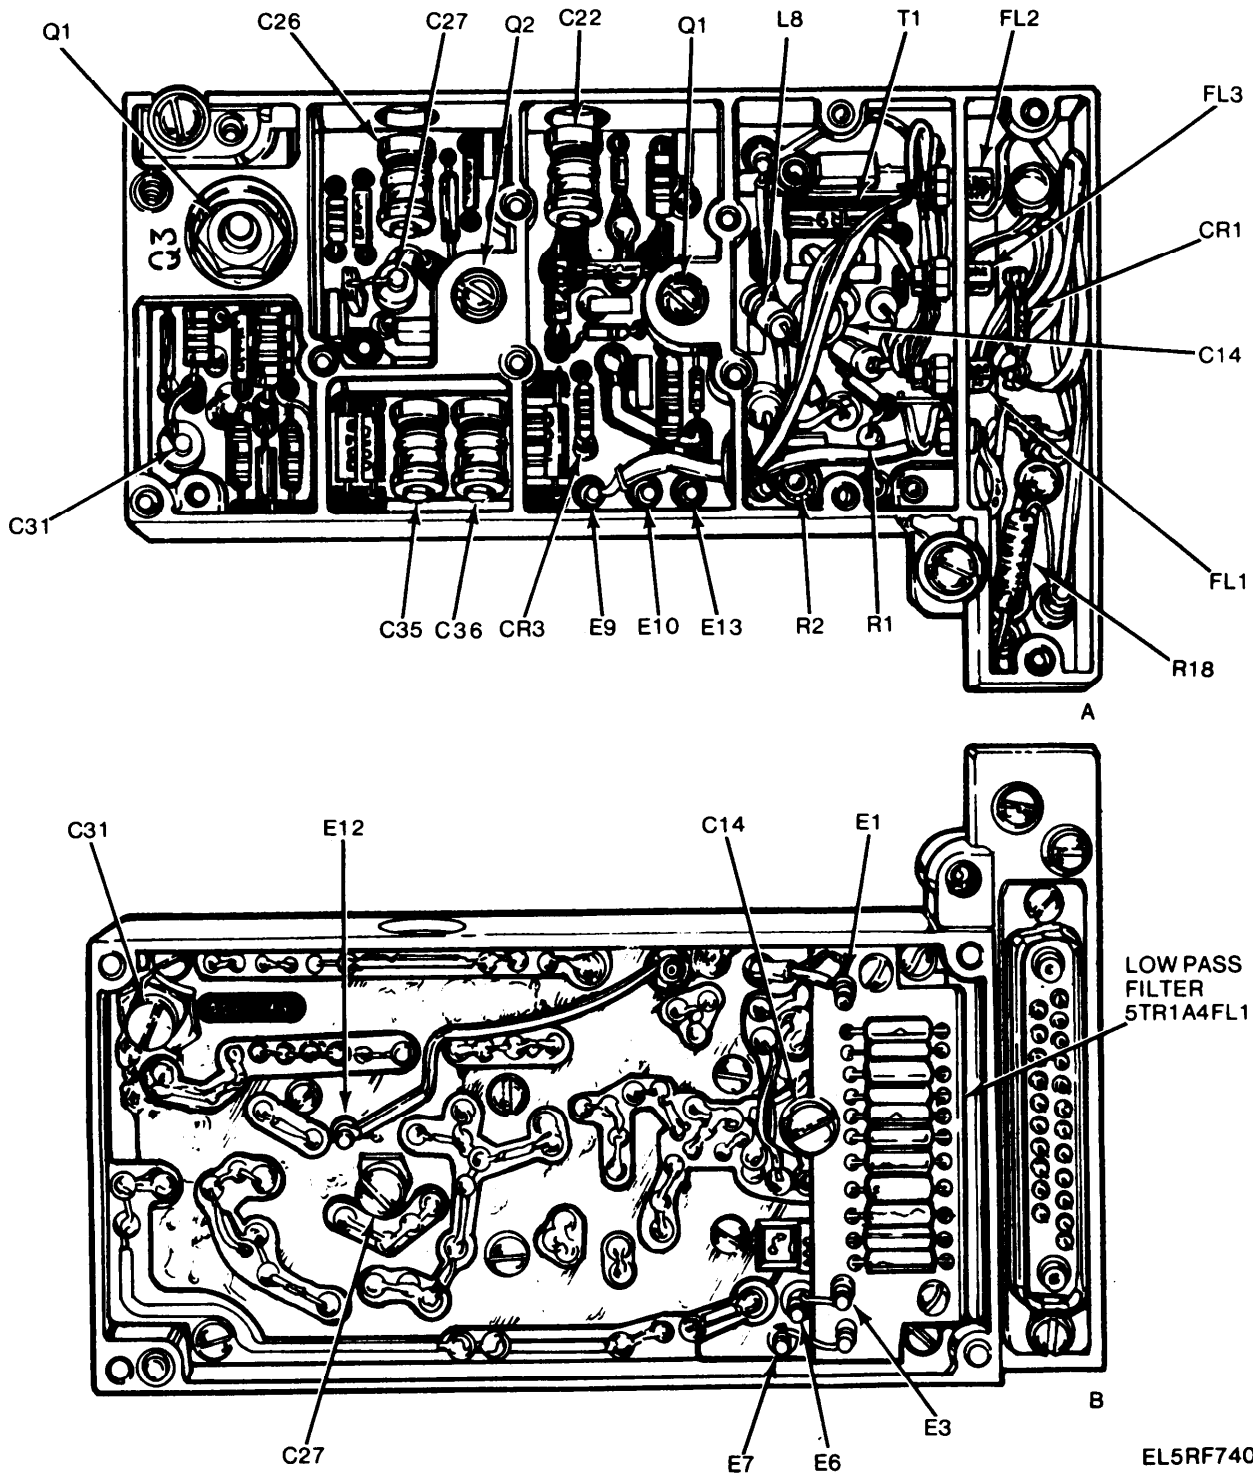

Figure 3-107. Amplifier-Frequency Multiplier 5TR1A4, Parts Location
(1) Signal voltages (Fig. 3-107).
(b) Set the controls on the unit under test as listed below (refer to figure 3-107 for control locations).